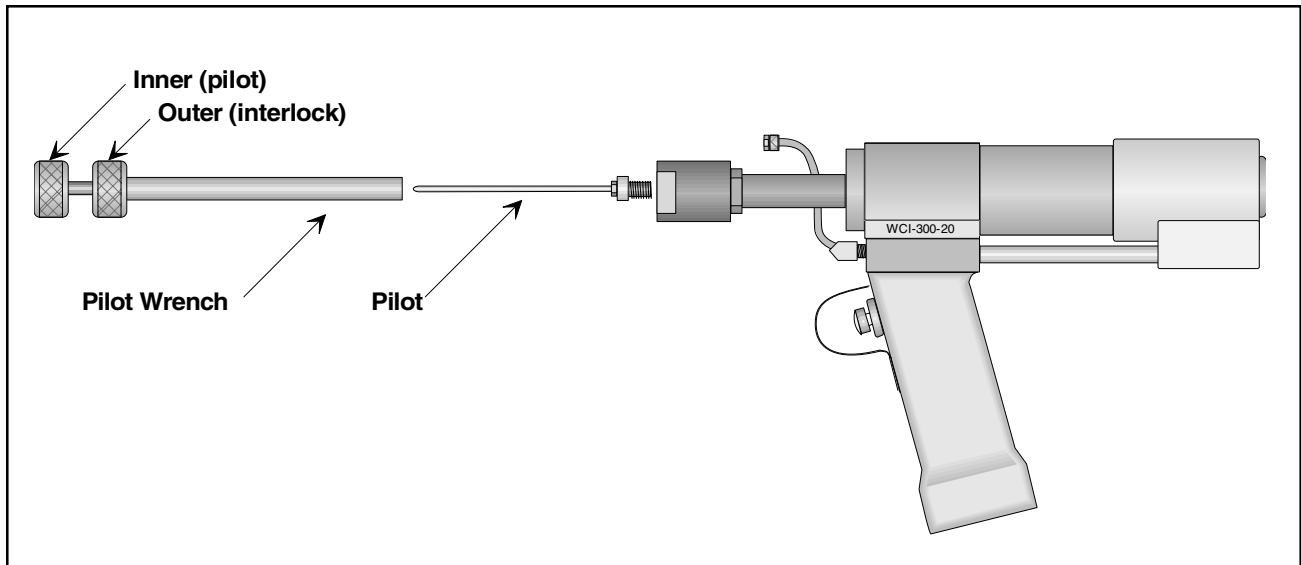

Figure 2-03
- 2.2.2.1 Use the appropriate pilot wrench set to remove the pilot from the puller unit (*ref fig 2-03*).